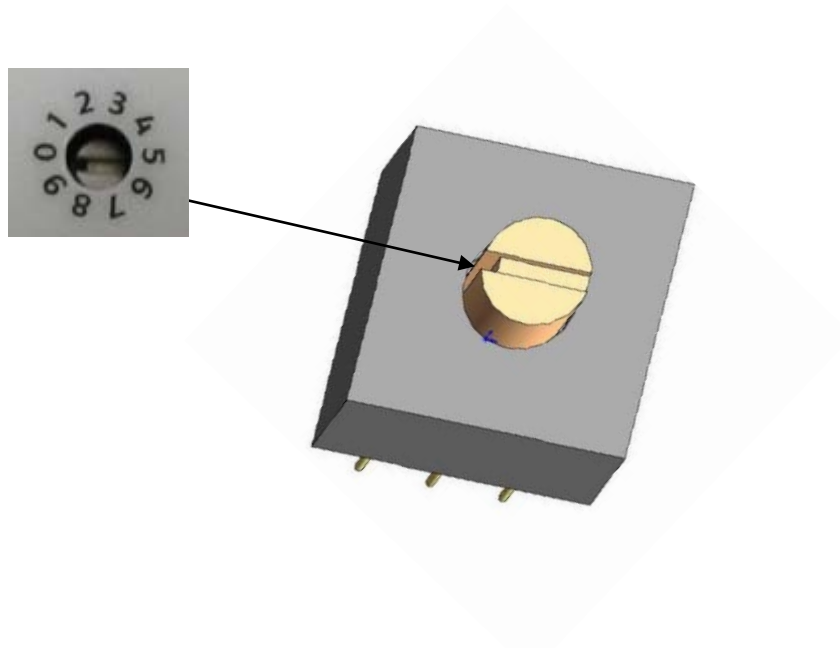

Figure 18: Rotate knob setup position
3. Rotate the knob so that the blank edge is pointing to the desired digit, as shown in Figure 18.